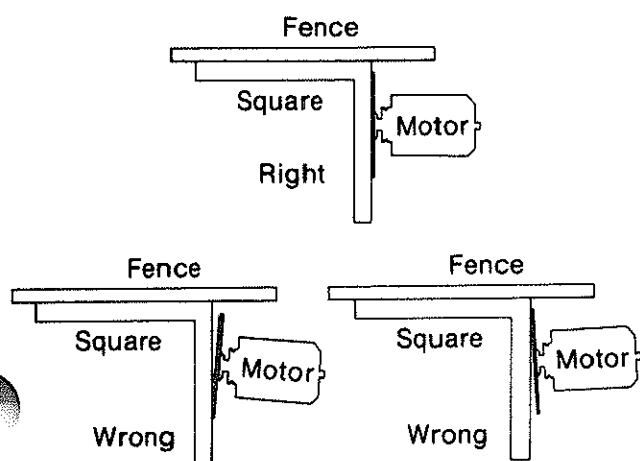

Fig. 112
5. If the square is flush with the *blade* after each rotation, no change is needed. (Figure 112) Go to the next section, or
If there is a gap between the square and the *blade* after any rotation, go to step 6. (Figure 112)